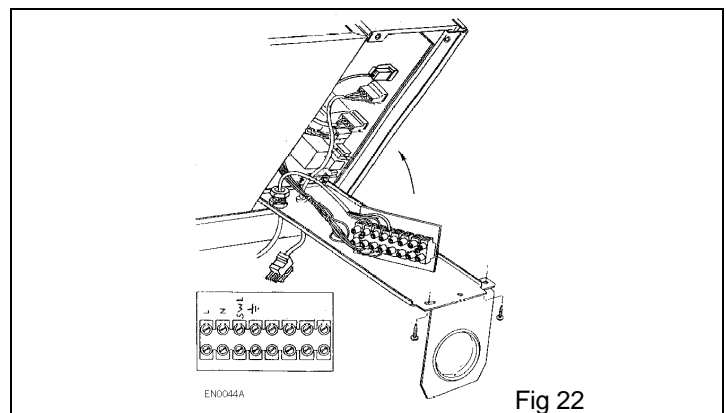

Fig 22
- b) Remove screw retaining access door on under side of boiler. Fig. 22.
- c) Remove screw retaining control front panel and tray. Fig. 22.